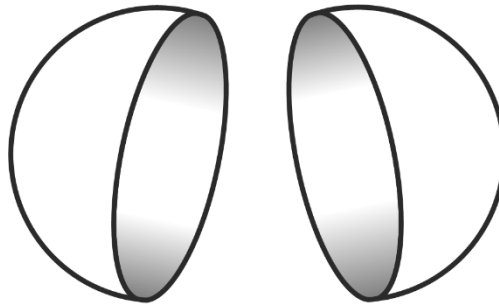

Figure 6
14. The spherical objects that represent the planets of the solar system, as seen in Figure 6, are made from a polymer called HIPS.
a. The planets are constructed out of two separate hemispheres of HIPS as seen in Figure 6. Name the type of structure of the plastic hemispheres.